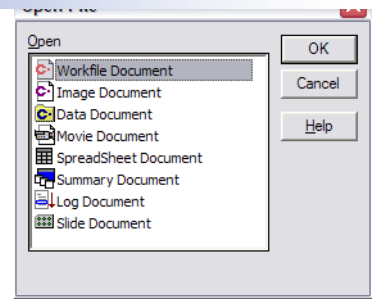

fig.6
1. Open the **Workfile** if it is not open. **File > Open > Workfile Document > OK > Select file > Open** (fig.6).